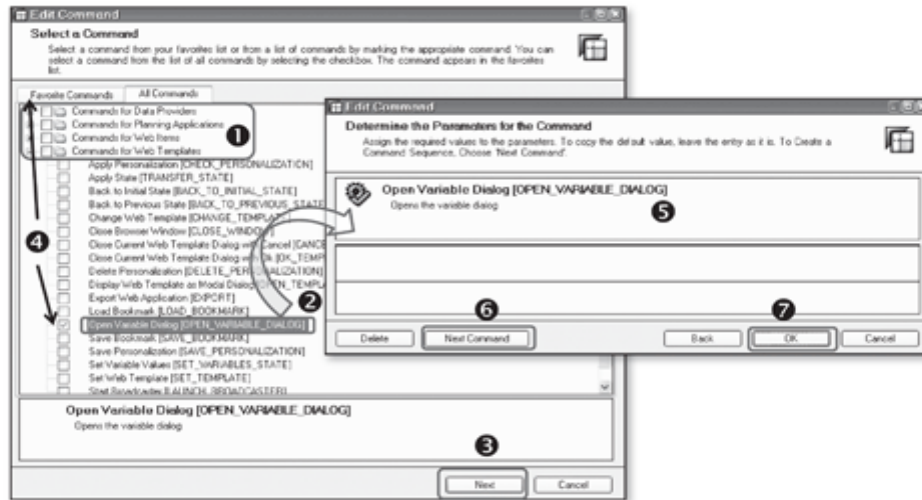

Figure 11.13 Assign a Command
The Command Wizard includes a variety of commands that can be used in the web template to create effective applications for analysis or planning (see Figure 11.13). Based on the usage and applicability, these commands are grouped in four different sections as shown in ❶ of Figure 11.13. These commands are discussed in a separate section later in this chapter.
For the example scenario, we need a command to call up the variable screen. This command is available under the Commands for Web Templates section (see ❶ of Figure 11.13). Select the command Open Variable Dialog (OPEN_VARIABLE_DIALOG) (❷), and click on the Next button to set the parameters for this command (❸). You can also maintain a list of frequently used commands as your favorites by selecting the checkbox in front of a command (❹). All commands where the checkbox is selected will appear on the Favorite Commands tab page (❺).